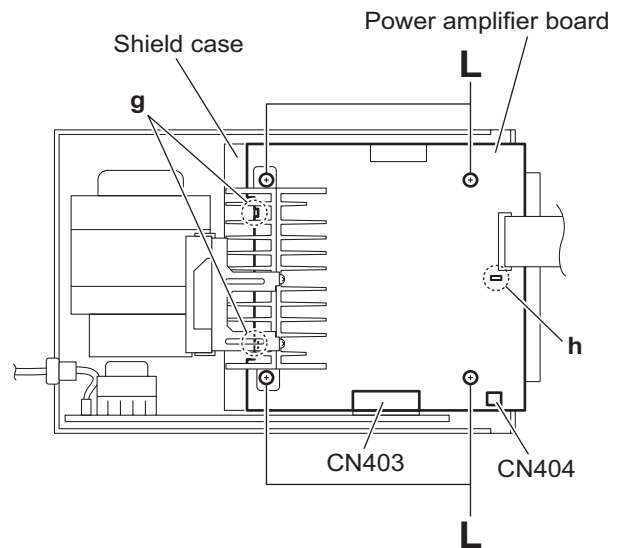

Fig.17
3.1.10 Removing the power amplifier board (See Fig.17)